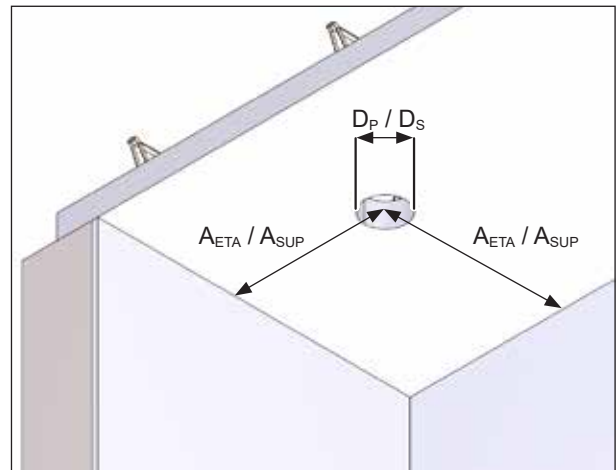

Fig. 13: Cored hole for ceiling box – minimum diameter and distances
- ▶ If necessary, drill the cored hole for the ceiling box. The diameter of the hole will depend on the ceiling box model (see Fig. 13).
- ▶ Observe the necessary minimum distances between the cored hole and adjacent surfaces (see Fig. 13).